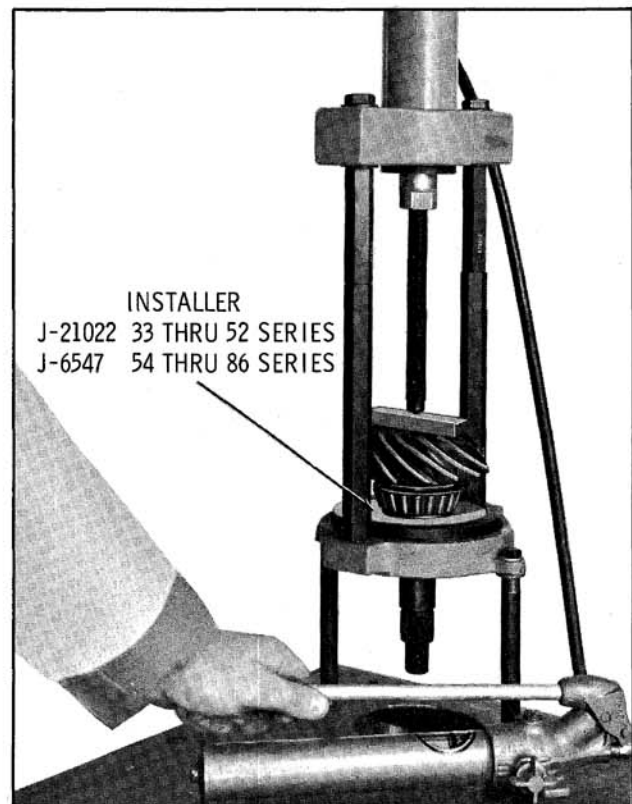

Fig. 10-28 Installing Pinion Rear Bearing
14. Position correct shim on drive pinion and install the drive pinion rear bearing as shown in Fig. 10-28.